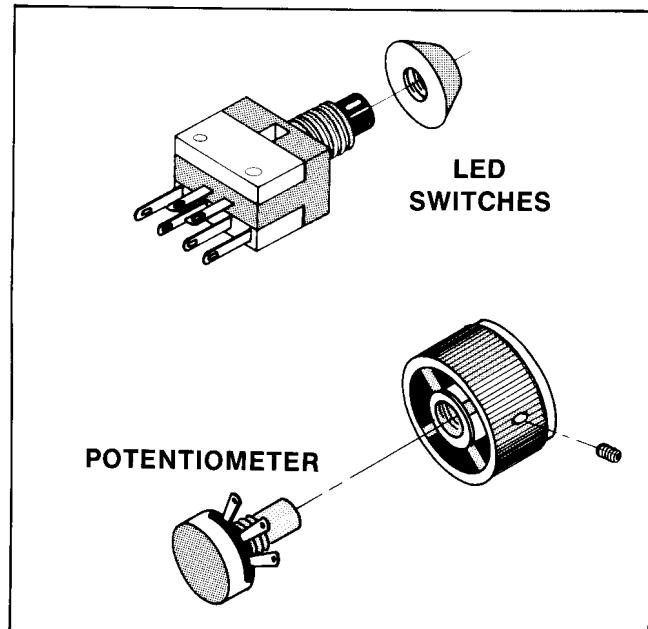

Figure 3-12 LED Switch and Potentiometer Replacement
F. LED SWITCH AND ROTARY SWITCH REPLACEMENT (See Figure 3-12)